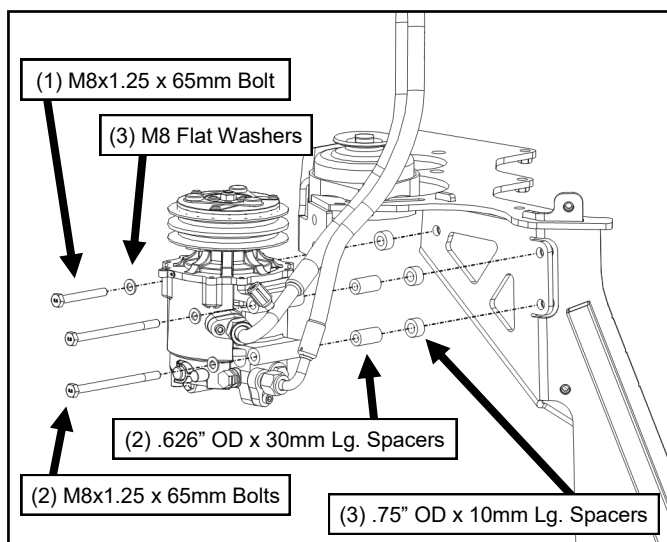

Fig. 1.41 (Compressor Hardware Removal)
- 1.41** At this time, remove the compressor from its mounting bracket which is fastened to the rear pallet frame and retain all hardware. See Figure 1.41.